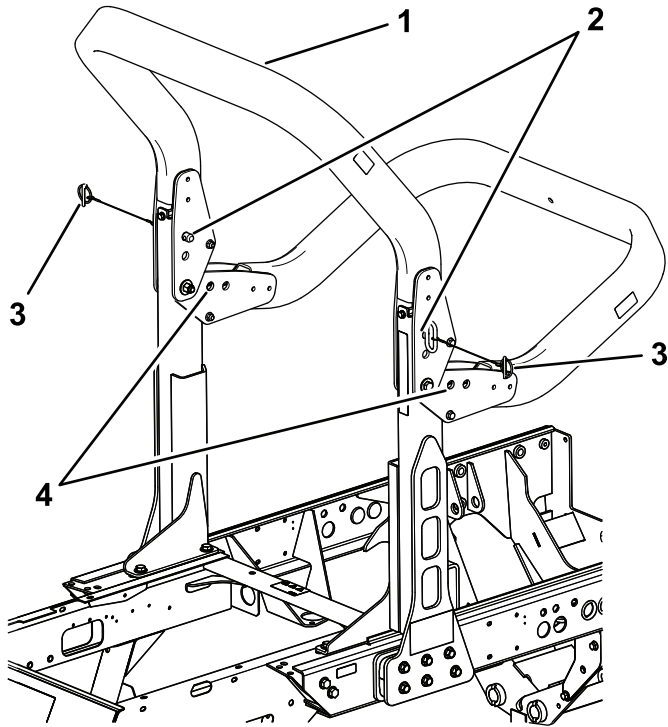

Figure 74
2. Support the weight of the upper frame of the roll bar while removing the snap pins and clevis pins from the pivot brackets (Figure 74).